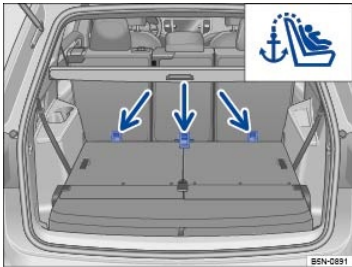

Fig. 45 Anchorages for the top tether strap on the back of the second row seats.
- Locate the tether anchor behind the second row seat backrest ⇒ Fig. 45. The third row seating positions do **not** have top tether anchors.
- Attach the tether strap anchorage hook into the opening of the tether anchorage ⇒ Fig. 45.